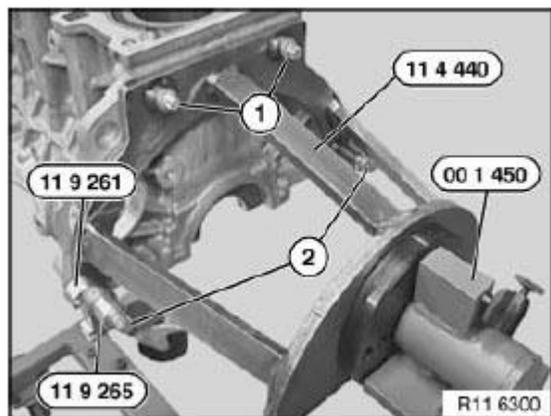

Fig. 32: Identifying Engine Block Steel Bolts And Special Tools
Bolt engine or engine block with steel bolts (1) and aluminum bolts (2) to special tool 11 4 440. See **Fig. 32**.
To release central bolt, bolt on special tools 11 9 261 and 11 9 265 as well. See **Fig. 32**